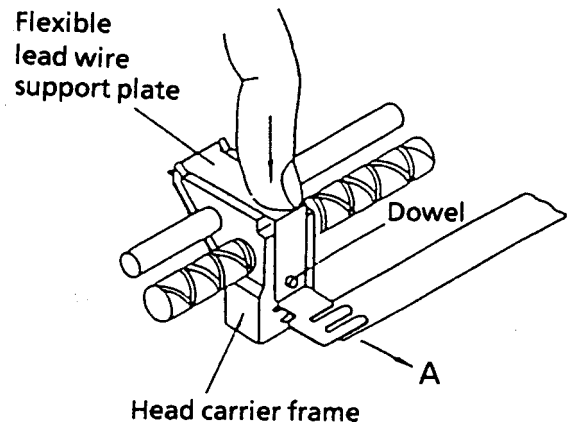
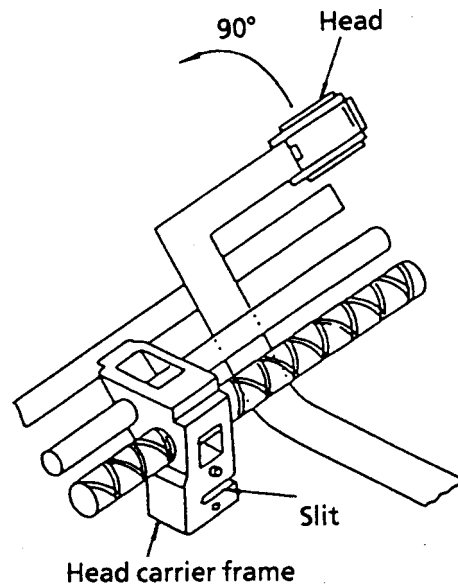

Figure 8-13 Pulling out the Flexible Cable Plate
Figure 8-16 Rotating the Head Portion of the Unit
- ③ Pull out the flexible cable plate in the direction shown by arrow A holding the edge of the plate with a finger, then disengage the plate from the dowel of the head carrier (see Figure 8-13).
- ③ After inserting the head unit terminal, arrange the components as shown in Figure 8-16. Then, rotate the head portion of the unit by 90° into the position shown in Figure 8-13.